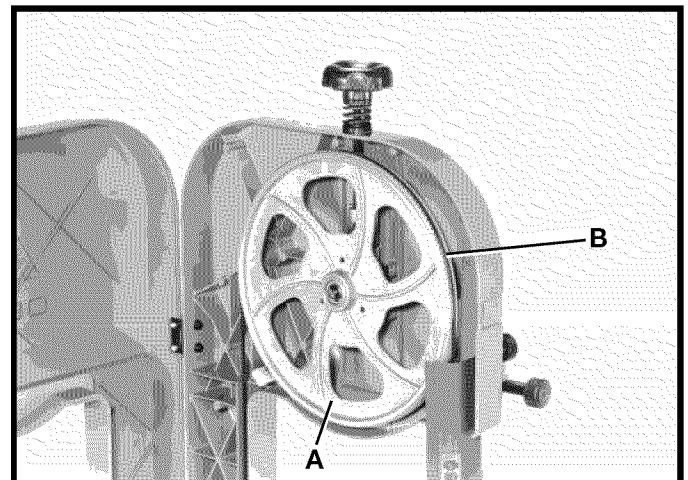

Fig. 25
3. Rotate upper wheel (A) Fig. 25, clockwise by hand and check to see if the blade (B) rides true on the approximate center of the two wheels.